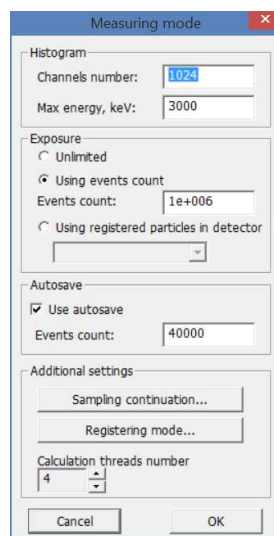

Figure 53.16
7.13 In the menu of the window **Calculation** select **Options-> Measuring mode**. In the appeared window **Measuring mode** specify the values in the fields as shown in the figure 53.16. Click **OK**. [Section 4.4].